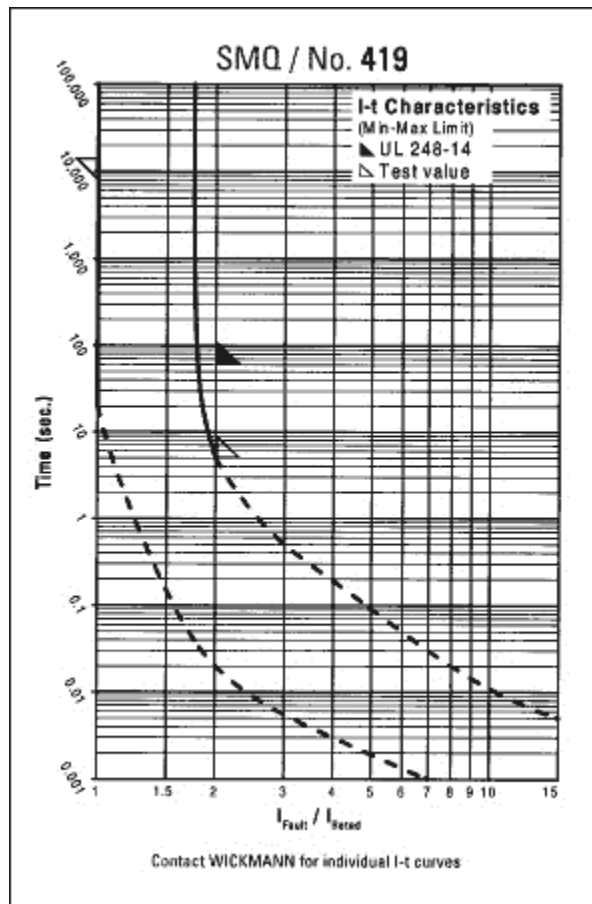

Figure 5. Fuse current-time characteristics (courtesy Wickmann)
6. Select a fuse that will survive this $<100\mu\text{sec}$ transient without blowing. To do this, a curve of time vs. current is required for the selected fuse. This curve can be obtained from the fuse manufacturer, and is reproduced in Figure 5. The left curve boundary indicates that any value to left of the curve will not blow the fuse. The right curve boundary indicates that any value to right of the curve must blow the fuse. The curves become straight lines near and below the horizontal axis, so may be extrapolated to $100\mu\text{sec}$ to find the current multiplier for minimum and maximum time limits at amperage. Extrapolating the curves to $100\mu\text{s}$ indicates that the fuse will not blow at 22 times rated current (88A) at $100\mu\text{sec}$. We also see that at least 7 times the rated current (28A) is required for fuse blow in 1msec, while blow is guaranteed at 10 times rated current (40A) in 10msec. Extrapolating the curves to $100\mu\text{s}$ indicates that the fuse will blow at 12 times rated current (48A) in 8msec, or will blow at 40X (160A) in 1msec. The selected 4A fuse is a suitable choice as it allows safe operation on 36V transients, yet will blow in $<8\text{msec}$ at $I_{D(\text{ON})}$ -limited 50A short-circuit conditions, or will blow in $\leq 1\text{msec}$ if Q1 shorts during short-circuit, so we may select a 4A (no blow at 88A/100 μsec) fuse, although we have yet to verify performance under short-circuit conditions.